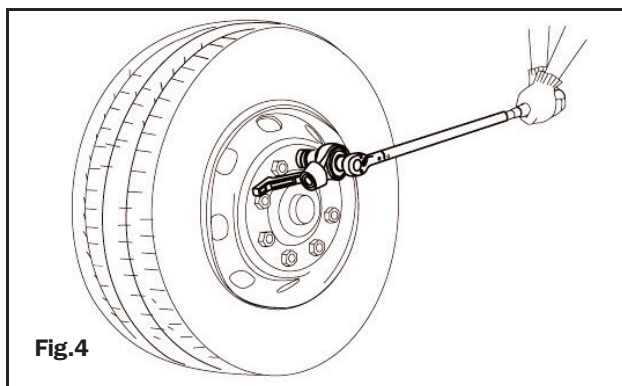

Fig.4
7. Once assembled as desired place the tool on the nut or bolt to be fastened, making sure the straight reaction bar (3) or the reaction arm (2) if possible is restrained against some substantial part of the equipment being serviced (See fig 4)